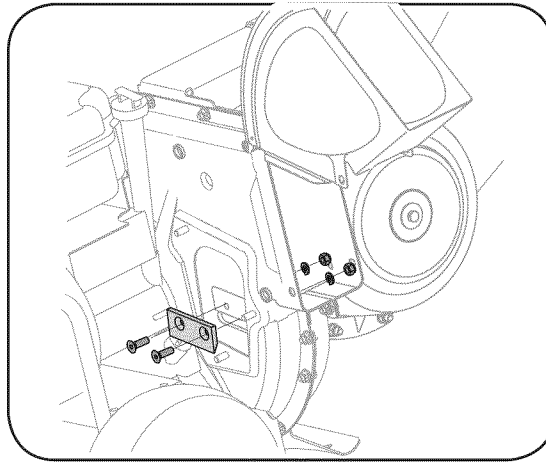

Figure 5-3
- Remove the blade by removing the internal hex screws, lock washers, and hex nuts which secure it to the impeller. Retain the hardware. See Figure 5-3.